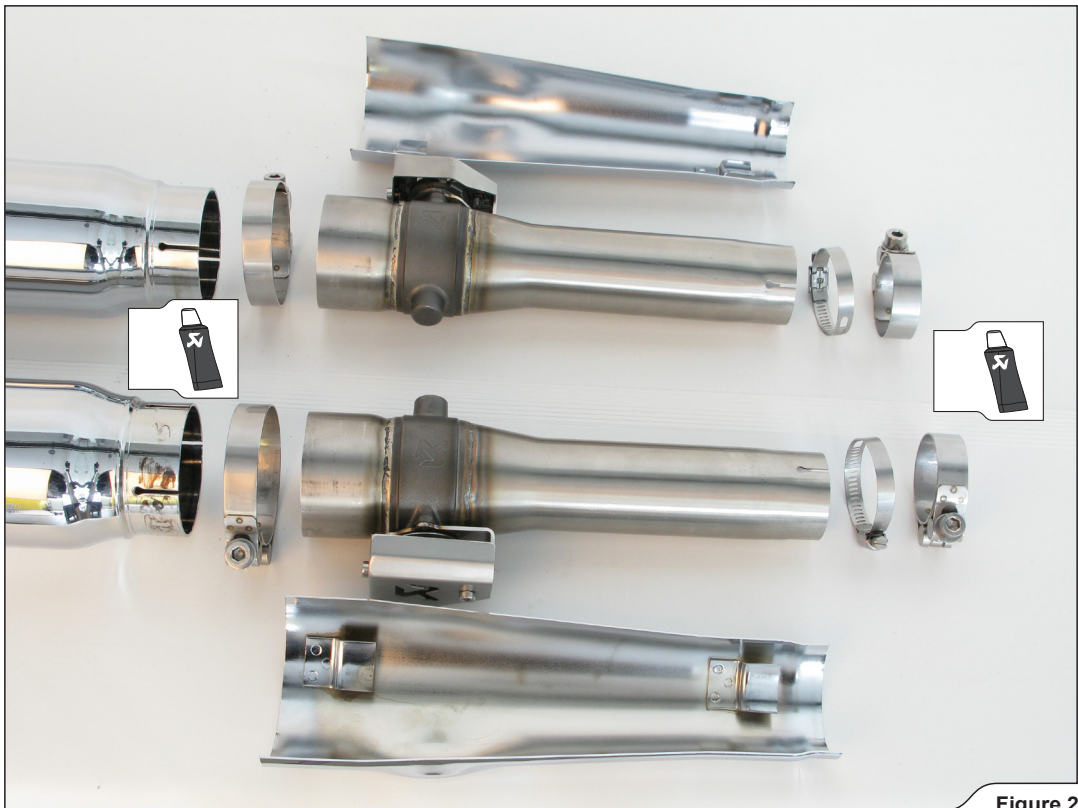

Figure 2
3. Correctly assemble the mufflers, link pipes with valves, clamps and heat shields as shown (**Figure 2, 3**).